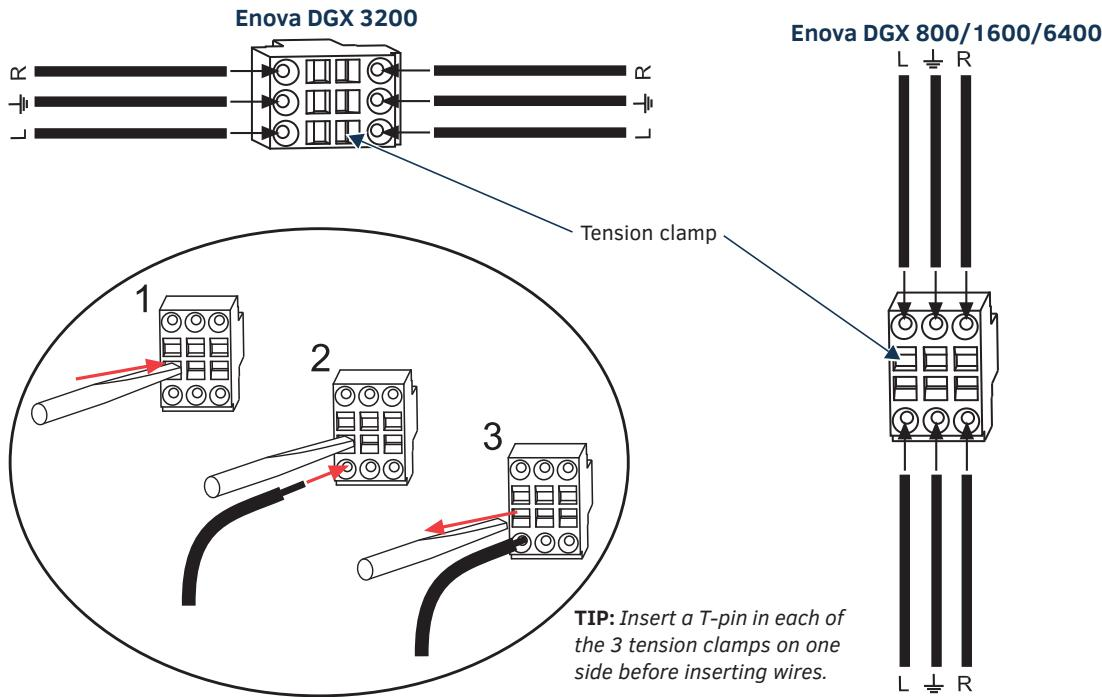

FIG. 92 Audio wiring for AIE Board
- Audio boards and connectors are positioned vertically on the Enova DGX 3200 and horizontally on the Enova DGX 800/1600/6400. Be sure to note the labeling for the wiring on the “R” (right channel) and the “L” (left channel) wires in FIG. 92.